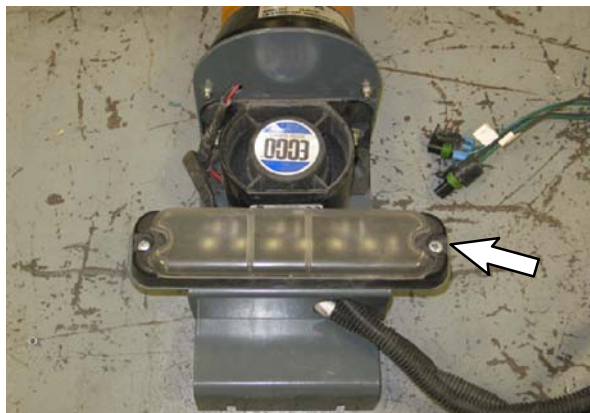

FIG. 3
4. Hold the light bracket (4) up to the backup alarm bracket (1) and route the wires from the flashing / strobe and backup alarm down through the smaller hole in the light bracket.
5. Route the flashing / strobe light / backup alarm jumper harness through the larger hole in the light bracket (4) and attach the wires from the flashing / strobe and backup alarm down to the jumper harness.
7. Use saved hardware to install the backup light / light bracket (4) onto the backup alarm bracket (1). (Fig. 3)